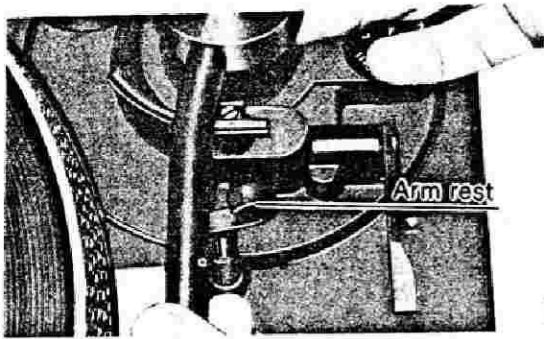

Fig. 3
- Detach the tonearm from the arm rest as shown in Fig. 3 to bring the tonearm into free state.